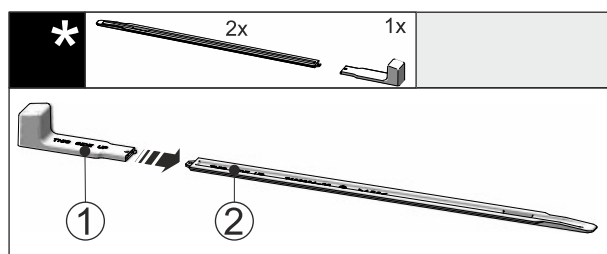

Fig. 41
- Insert the mounting handle Fig. 41 (1) into the leveling rail Fig. 41 (2).